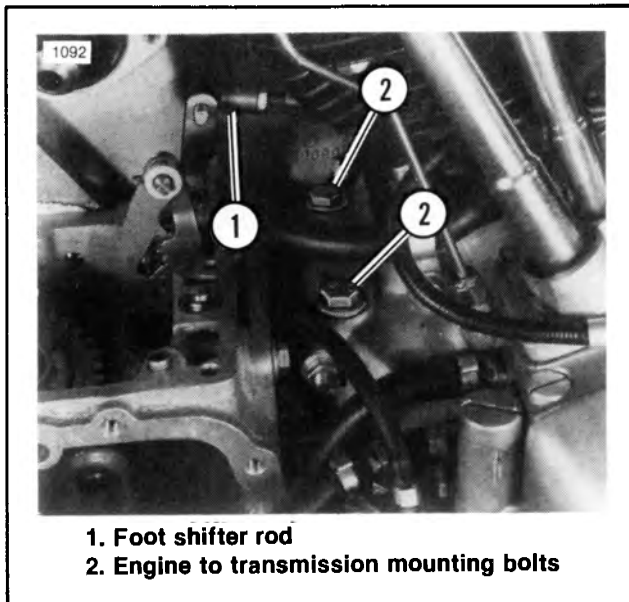

Figure 7-24. Disassembling Transmission from Engine
3. See Figure 7-24. Disconnect the foot shifter rod (1) from the shifter arm.
14. See Figure 7-24. Remove the two bolts (2) and washers that secure the engine to the transmission.
- 6. See Figures 7-24, 7-32. Place the centering plate (18) on the shifter arm (16) as shown. Install the springs (17 and 20), pin (19) and retaining ring (22) if disassembled.
22. See Figure 7-24. Tighten the two transmission-to-engine mounting bolts (2) to 33-38 ft-lbs torque. Connect the foot shifter rod to the shifter arm.